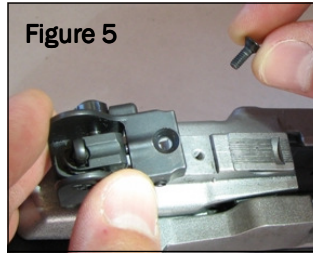

Figure 5
7. Install the Tech-SIGHTS MINI200 sight as shown in Fig. 5 & 6 (for 5800 series), or Fig. 7 & 8 (for pre-2005 Ranch rifles). Apply medium strength Loctite or equivalent to (TS00231) Screw 5-40 for 5800 Series or (TS00240) Screw 5-40 x 1/4" for pre-2005 Ranch rifles, before assembly.